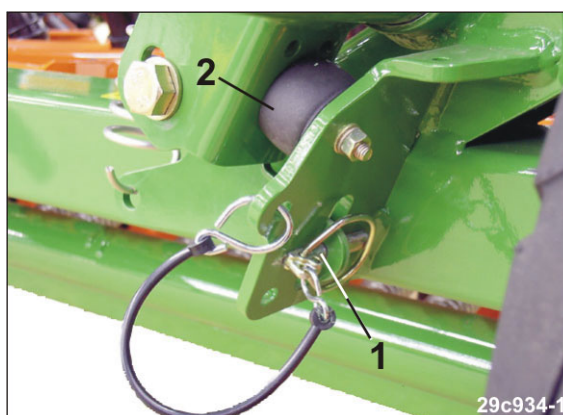

Fig. 173
- 4.1 Press the track markers booms against the rubber block (Fig. 173/2) and secure with a linch pin (Fig. 173/1).